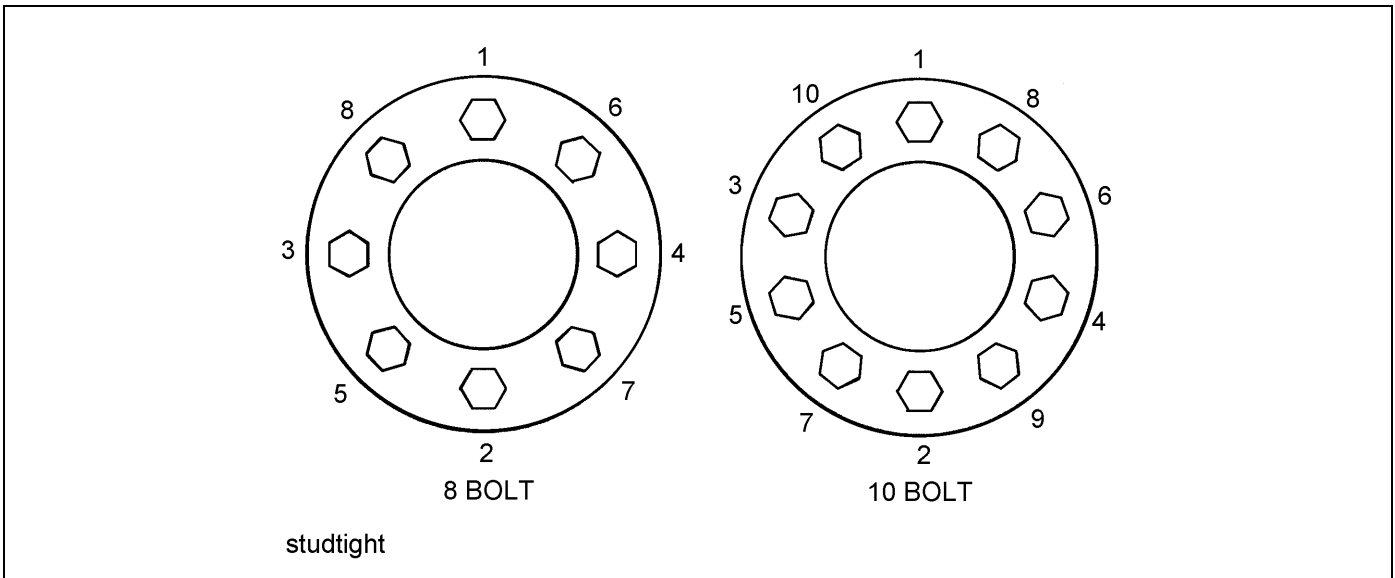

Figure 4-17: Stud Tightening Sequence
4. Install the flange nut and tighten to 50 foot-pounds using the sequence in **Figure 4-17**. Then tighten to full torque of 450 to 500 foot-pounds , using the same sequence.
Improper tightening sequence	Follow proper tightening sequence (See Figure 4-17.)